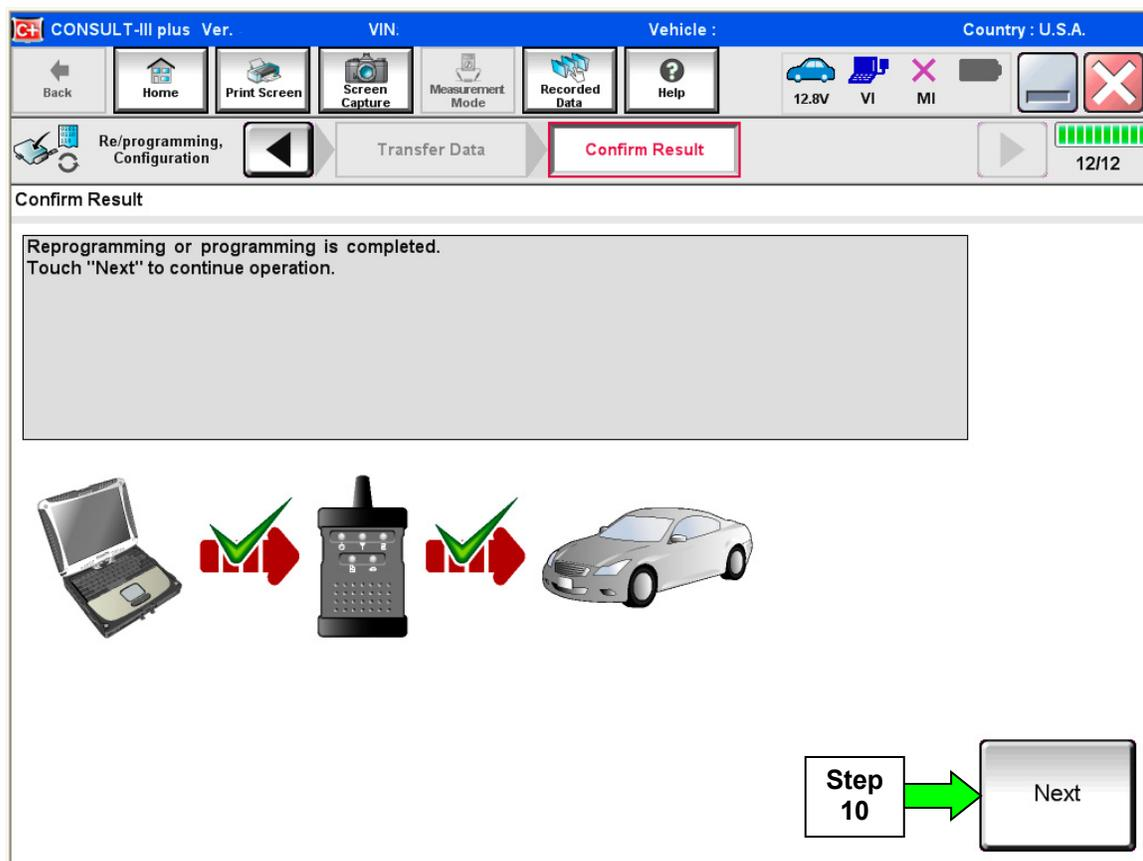

Figure 5
8. When the screen in Figure 5 displays, reprogramming is complete.
NOTE: If the screen in Figure 5 does not display (indicating that reprogramming did not complete), refer to the information on page 14.